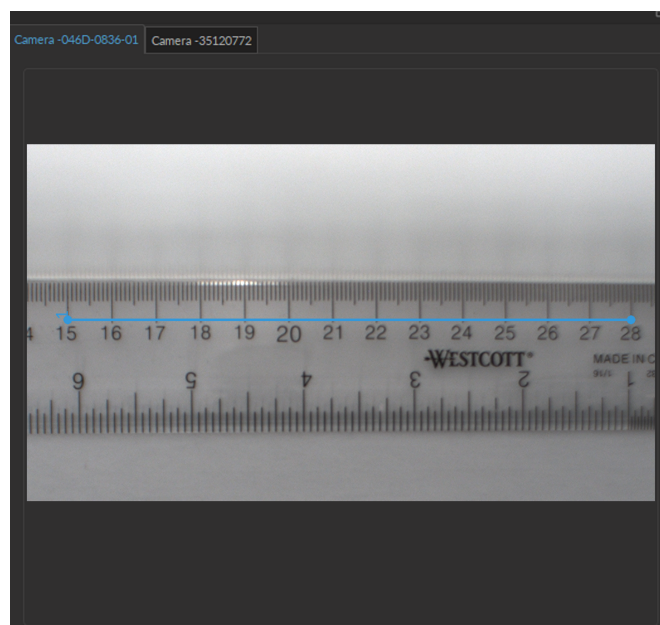

Figure 11.102: Camera Module - Calibration User-defined line
- A *User Defined (Line)* - uses a user-drawn line within the image as a reference (Fig. 11.102). This line can online be horizontal or vertical. For optimal results use an object/dimension that fills most of the image.